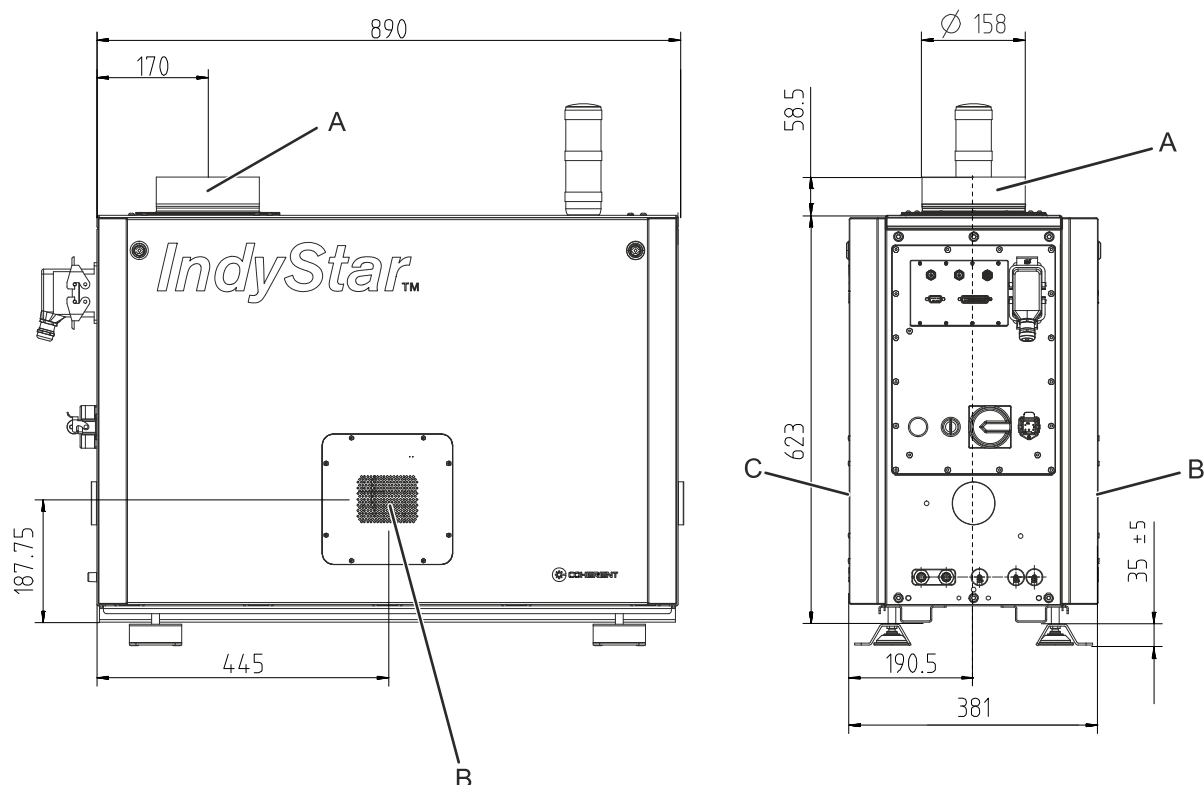

Figure 21: Location of air intake and exhaust (standard configuration)
The IndyStar laser device has air intakes on each service access side (see Figure 21, B and C) and an air exhaust situated on top of the laser device (A)^b.
b. Figure 21 shows the standard configuration. At the request of the customer the laser device can be ordered with interchanged positions of the air intake (C) and exhaust connector (A).
Optionally, the exhaust outlet (see Figure 21, A) can be used as an air intake and an air intake (B) can be used as an exhaust. In order to achieve the required air flow rate, the total area of the openings in the air intake and exhaust must be identical.